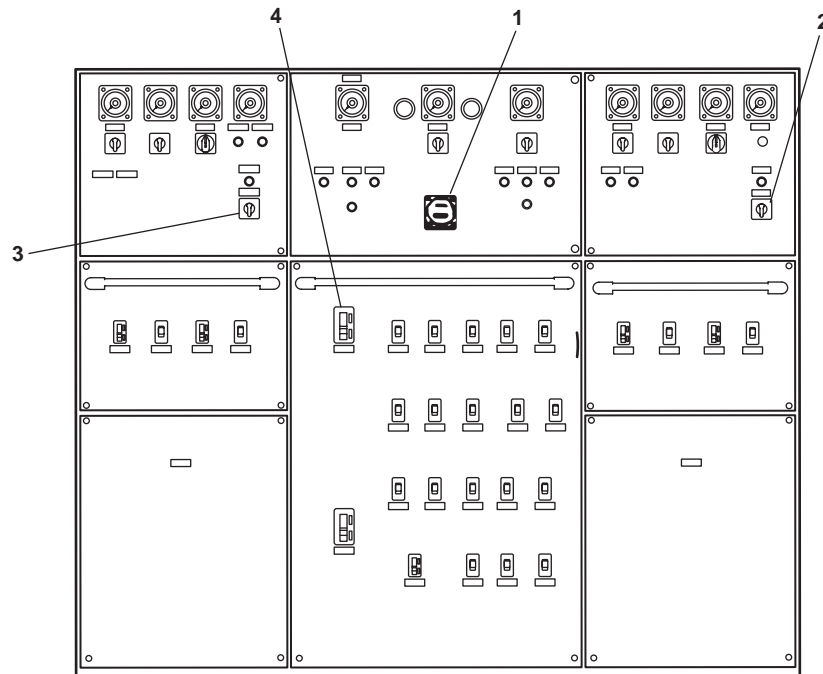

Figure 2. Main Switchboard
- a. Ensure that the PHASE SEQUENCE METER (figure 2, item 1) indicates the correct phase of shore power.
- b. Set the GENERATOR 1 CKT. BKR. (figure 2, item 2) or GENERATOR 2 CKT. BKR. (figure 2, item 3) to OFF.
- c. Quickly set the SHORE POWER CKT. BKR. (figure 2, item 4) to ON, energizing the switchboards.
- a. Set the SHORE POWER CKT. BKR. (figure 2, item 4) to OFF.
- b. Quickly set the GENERATOR 1 CKT. BKR (figure 2, item 2) or GENERATOR 2 CKT. BKR. (figure 2, item 3) to ON.